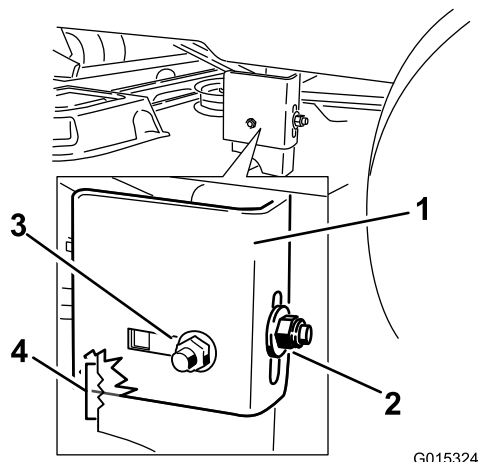
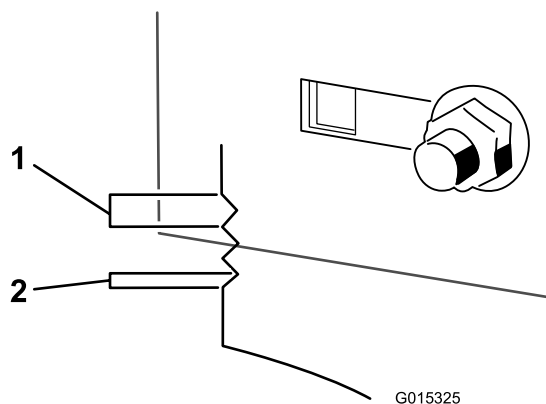

Figure 62
Figure 63
9. Loosen the rear locking nut on the hanger bracket (Figure 62).
10. Loosen the side locking nut on the hanger bracket just enough to allow the hanger to be adjusted (Figure 62). Use the notches on the welded bracket to measure the amount of adjustment. Each notch surface is equivalent to 0.25 inch, while a single side is 0.125 inch (Figure 63). Adjust the height of the mower deck to the desired height.
11. Stop the deck at the adjusted position and tighten the side locking nut on the hanger bracket to hold the new position (Figure 62). Tighten the rear locking nut on the hanger bracket.